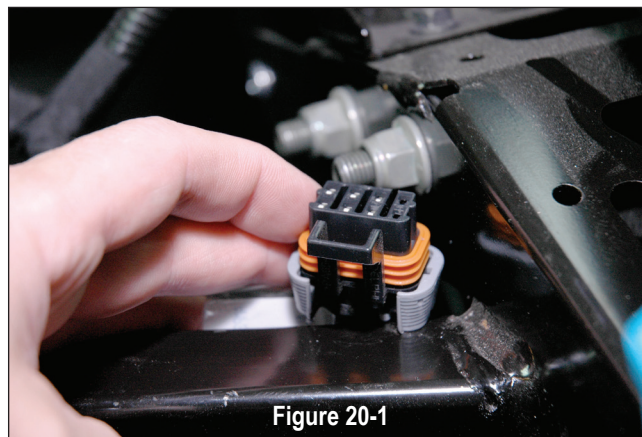

Figure 20-1
There are three AMP plugs located behind and on either side of the Ride Command dash unit as shown in figure 20-1 and 20-2.
- If you have ONLY the Dynamix ECU and ECU mounting bracket, put back in its original location ensuring the wiring intended for the amplifier harness is still routed through the gap area at the forward section of the bracket. Replace the two (2) 10mm rear bolts (nearest the dashboard) as shown in Figure 20-1 and fully tighten them. You will still reuse the remaining (2) 10mm bolts to secure the dual amplifier plate with this kit.
- If you have the Dynamix ECU AND the OEM installed amplifier and have chosen to retain the OEM amplifier, you must have relocated the amplifier elsewhere to make room for the dual amplifier plate provided in the kit. If you are NOT re-using the OEM amplifier you should have disconnected the amplifier and removed it. Place the Dynamix ECU and ECU mounting bracket back in its original location ensuring the wiring intended for the amplifier harness is still routed through the gap area at the forward section of the bracket. Replace the two (2) 10mm rear bolts (nearest the dashboard) as shown in Figure 20-1 and fully tighten them. You will still reuse the remaining (2) 10mm bolts to secure the dual amplifier plate with this kit.